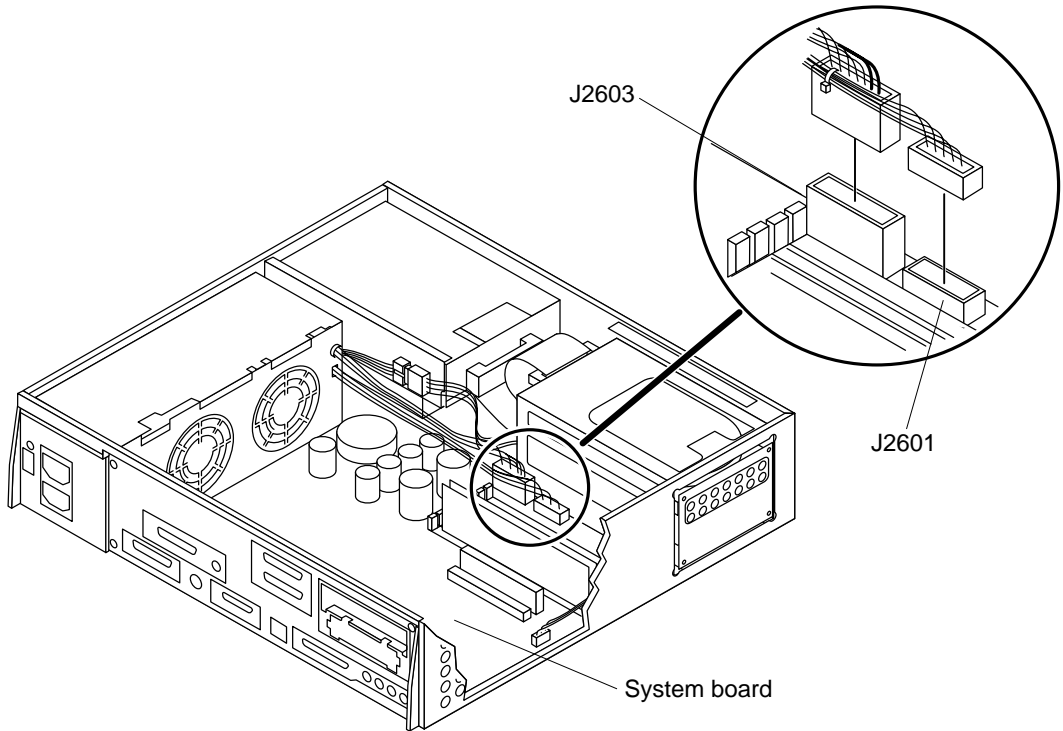

FIGURE 10-1 DC Power Disconnection
c. DC power cables at J2601 and J2603 (FIGURE 10-1).